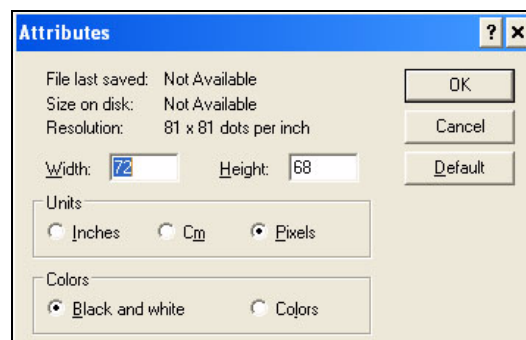

Figure 5-59: Image Attributes
- Select the colour format of the image as *Black and White*. (See Figure 5-59)